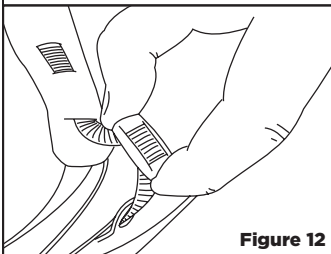

Figure 12
- 3 To adjust the size of the strap simply pinch the side locker from end to end and rock the locker back and forth until the strap becomes looser. To tighten it grab one part of the strap and then slide the locker down toward the mask. This will cause the strap to get tighter. [See Figure 12]